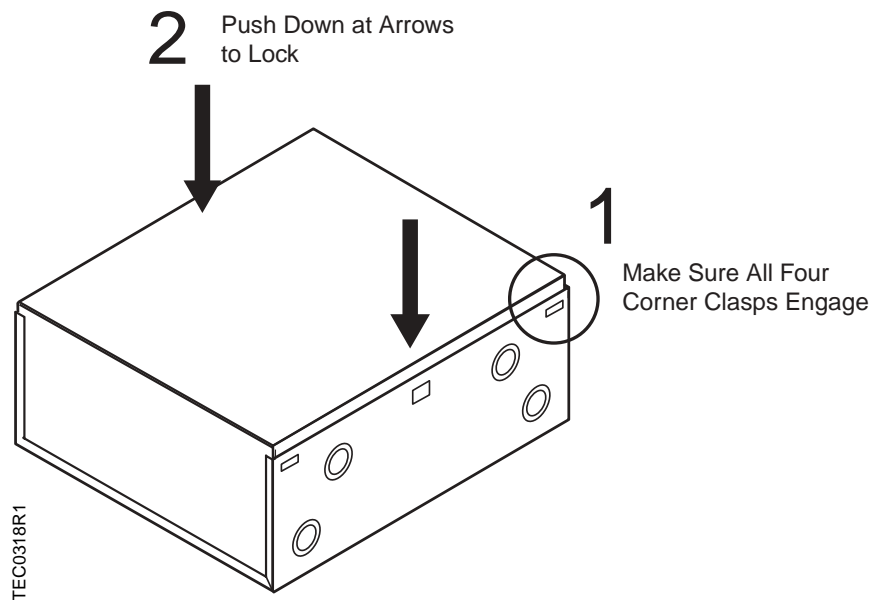

Figure 6. Enclosure 550-002 — Replacing Cover.
- If the controller will be installed now, then snap it into the mounting rail and replace enclosure cover. (For enclosure 550-002, see Figure 4 for how to secure the mounting rail, and Figure 6 for how to replace the cover.)